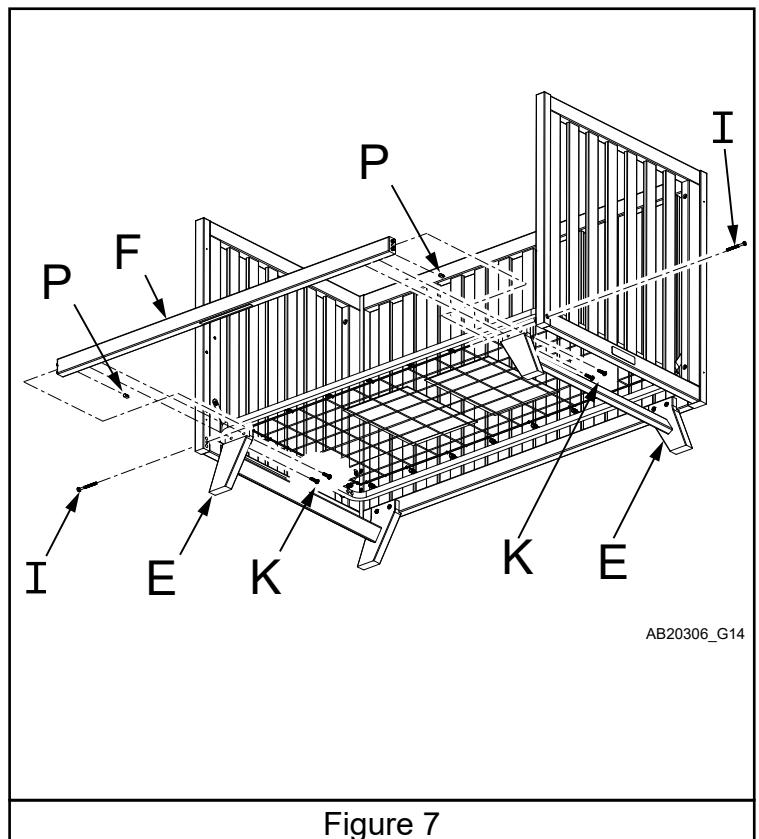

Figure 7
Snug Allen Head Bolts (I) into Toddler Bed Rail (F). Attach leg assemblies (E) to (F) and (B) as shown in Figure 7.
See Figure 7.